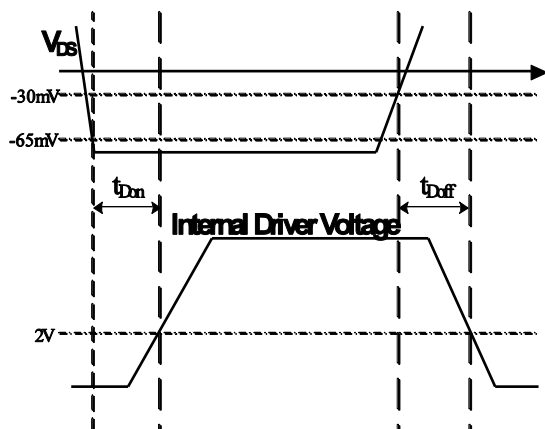

Figure 2: Turn-On and Turn-Off Delay
1. **Turn-On Phase:** The switch current first flows through the body diode of the integrate MOSFET, which generates a negative V_{DS} across it (less than -500mV). The voltage is much smaller than the turn-on threshold of the control circuitry (-65mV), which turns on the integrated MOSFET after a 200ns turn-on delay (see Figure 2).
3. **Turn-Off Phase:** When V_{DS} rises to trigger the turn-off threshold ($-30mV$), the driver voltage of the switch is pulled low after about 30ns of turn-off delay time by the control circuitry (see Figure 2). Similar with the turn-on phase, a 200ns blanking time is added after the switch is turned off to avoid an erroneous trigger.